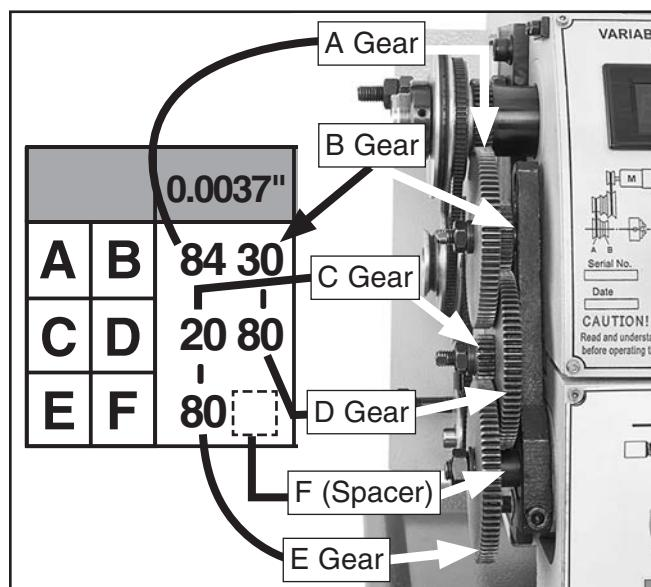

Figure 71. Power feed change gear configuration.
The end gears are preset by the factory in this configuration, which is used for power feeding. Mesh the B and D gears and the C and E gears (see **Figure 71**). A spacer (F) is installed on the lower shaft behind the E gear.